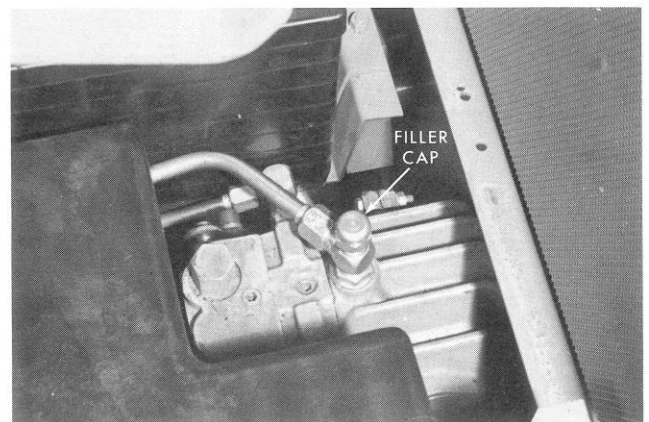

Figure 23
- B. If the oil level is low, tilt the seat forward and remove the cap plug shown in Figure 23. Add a high quality SE-SC 10W-40 oil until the level is up to the bottom of the check plug hole in the differential housing. When adding oil to the system, pour it through a funnel with a fine wire screen (200 mesh or better). Keep funnel and containers immaculately clean.